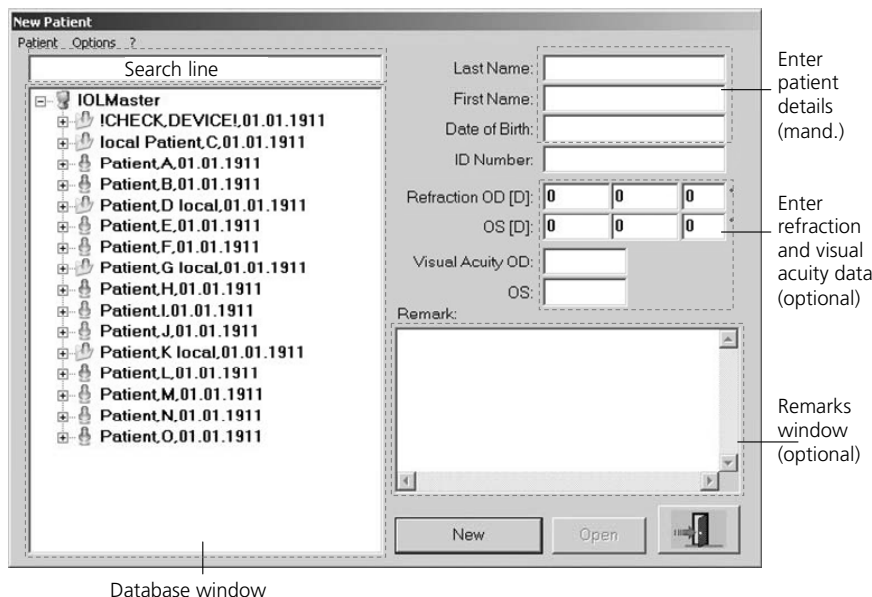

Fig. 33 **New patient** dialog box
- Turn the device on at the power switch (1, Fig. 9). The device will start automatically and perform a self-test, after which the Patient manager screen will appear (Fig. 33).
The Patient manager manages all existing patient data and the admission of new patients (see Fig. 33; for working with existing patients see page 91).